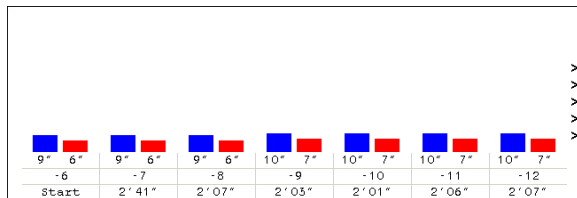

Figure 15: Sample Test Chart
15. The test chart (see Figure 15) will show the aspiration tests: the bars indicate the aspiration (blue) and reflow (red) time, if the reflow time is greater than 1min 20sec, a small arrow will appear atop the red bar.
The test temperature is shown under each test as well as for the time elapsed between each aspiration. In Figure 15 above, the 1st aspiration test was performed at -6 °C, the aspiration took 9 seconds and the reflow 6 seconds; the 2nd test (-7°C) has been performed 2 minutes and 41 seconds from the previous one (-6°C Start), the 3rd test has been performed 2 min 07sec after the -7°C test.